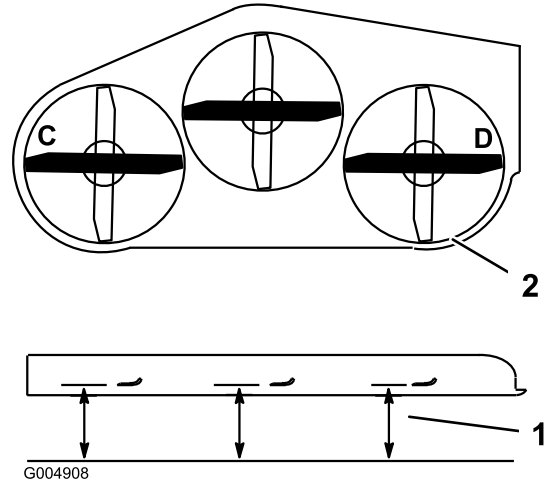

Figure 69
3. Measure at **C** and **D** locations from a level surface to the cutting edge of blade tips (Figure 69).